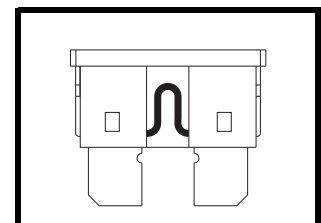

Figure 25. Working Fuse
2. Examine the fuse to be sure it is blown. **See figures 25 and 26.**